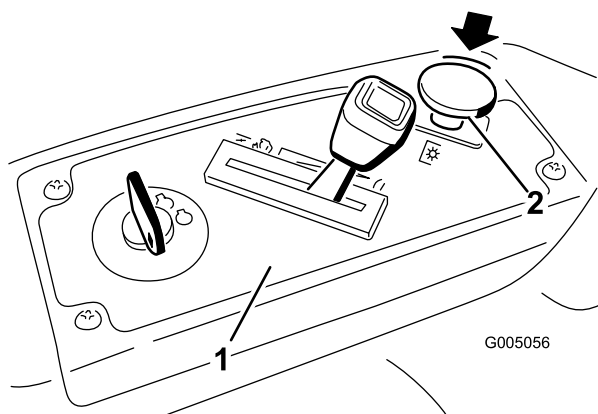

Figure 8
2. Disengage the blades by moving the blade control switch to Off (Figure 8).